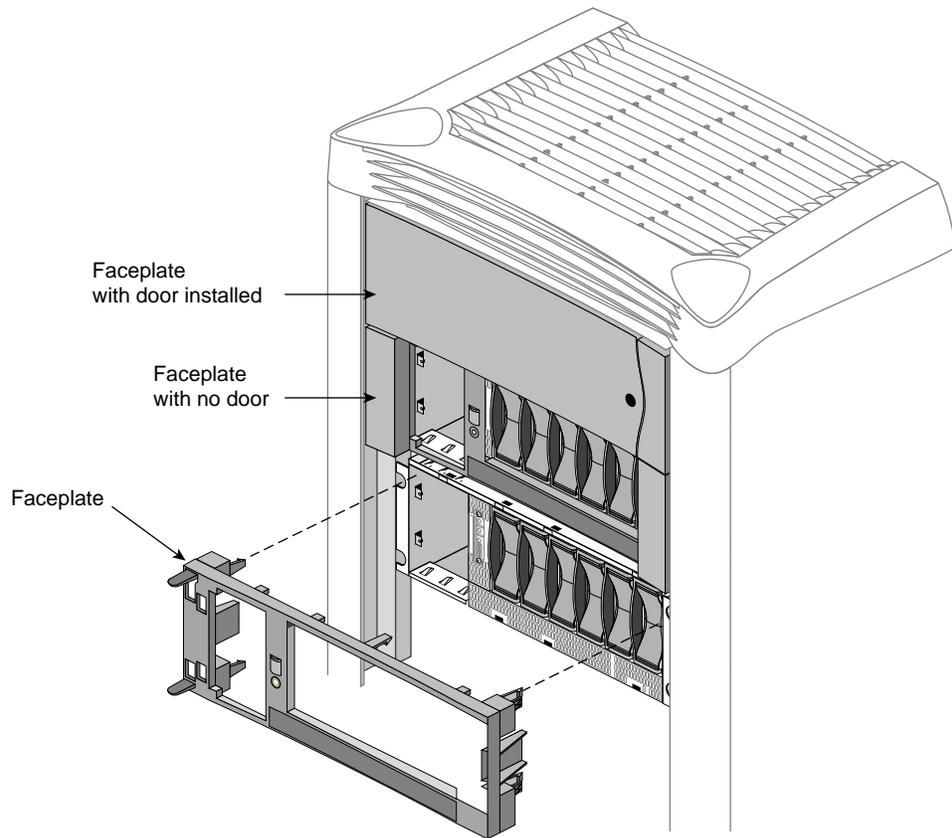

Figure 2-3 Removing the Faceplate: Origin2000 Rack
- Pry the faceplate out of the brackets at the sides of the rack; you might need a flat-blade screwdriver for this operation. See Figure 2-3.